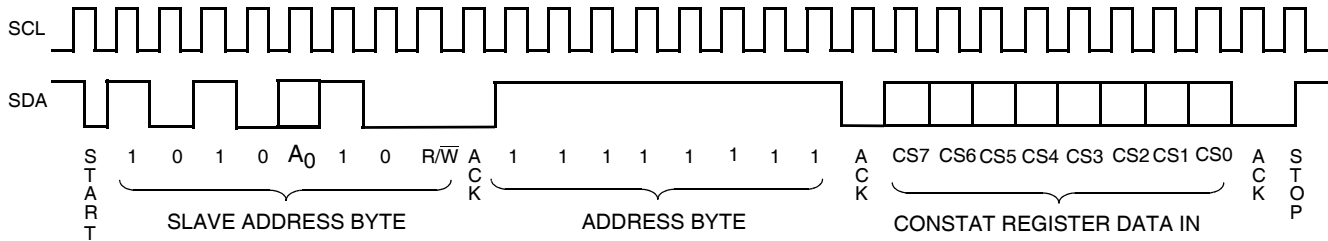

Figure 18. CONSTAT Register Write Command Sequence
Writes to the WEL bit do not cause an internal high voltage write cycle. Therefore, the device is ready for another operation immediately after a STOP condition is executed in the CONSTAT Write command sequence (See Figure 18).
- After a successful write operation to any bits of the CONSTAT register has been completed (See Figure 18).
The CONSTAT register is accessed using the Slave Address set to 1010A010 (Refer to Figure 4.). Following the Slave Address Byte, access to the CONSTAT register requires an Address Byte which must be set to FFh. Only one data byte is allowed to be written for each CONSTAT register Write operation. The user must issue a STOP, after sending this byte to the register, to initiate the nonvolatile cycle that stores the BP1 and BP0 bits. The X9525 will not ACKNOWLEDGE any data bytes written after the first byte is entered (Refer to Figure 18.).